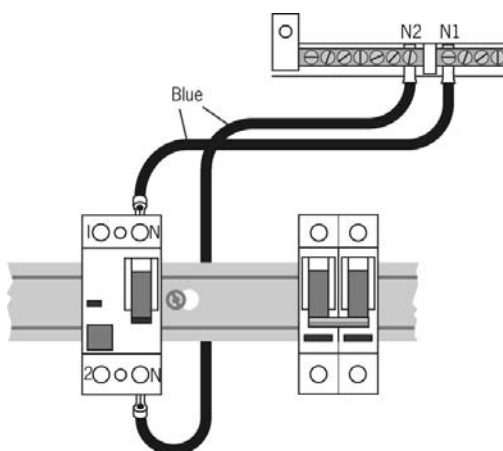

Fig 5
6. The blue Interconnector with two straight ends should be connected from the hole vacated by the 'U' connection marked 'N1' on the Neutral Terminal bar, to the incoming neutral cable terminal of the RCD (Fig.5).
7. The remaining blue Interconnector should be connected from the hole vacated by the 'U' connection marked 'N2' on the second Neutral Terminal bar, (Fig.5) to the Neutral Terminal at the bottom of the RCD.